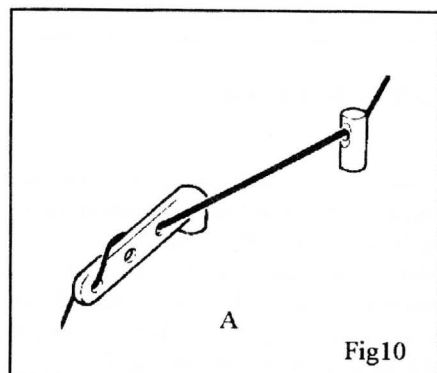
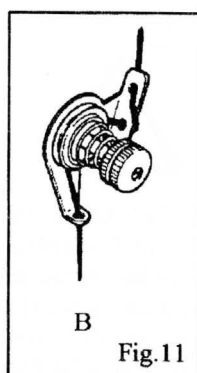
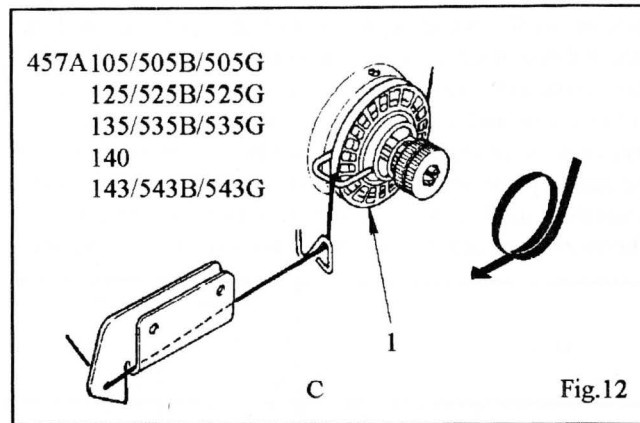
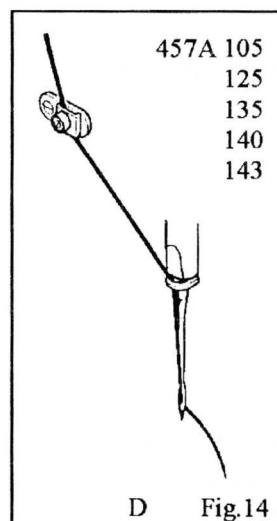

Fig. 10
Fig. 11
Fig. 12
Fig. 14
Pass the thread from the unwinder through threading points A (Fig. 10), B (Fig. 11), C (Figs. 12 and 13) and D (Figs. 14, 15 and 16) in the order shown.
**NOTE:** When passing thread through threading point C (Figs. 12 and 13), wind thread around rotary tension wheel (1) once.